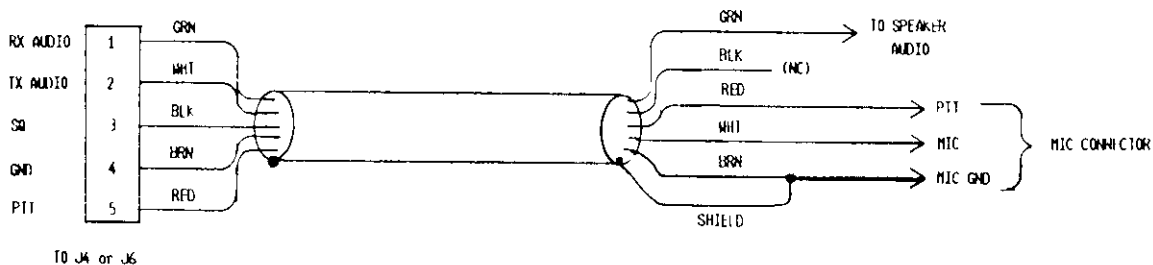

Figure 2-3 Radio-to-PK-232 Connections
- o verify that your radio and PK-232 are connected as shown in Table 2-1 earlier in this manual, and Figure 2-3 below;
3. Verify that your PK-232 and FM radio are connected as shown in Figure 2-3 below.
1. Connect your PK-232 and SSB radio as shown in Figure 2-3.